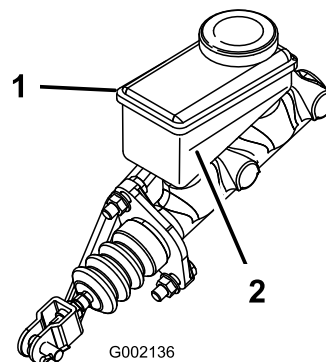

**Figure 48**
1. Raise the hood to access to the master brake cylinder and reservoir (Figure 48).
- A. Clean the area around the reservoir cap and remove the cap (Figure 48).
- C. Install the reservoir cap (Figure 48).